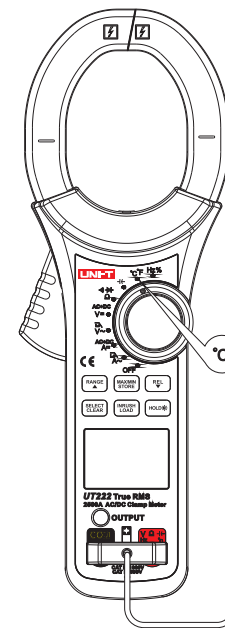

Figure 11
8. Temperature measurement (See Figure 11)